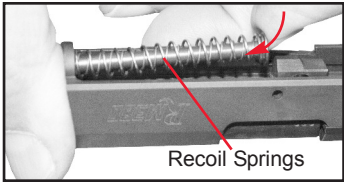

Figure 35
9. Insert the front of the Recoil Spring/Guide Rod Assembly into the Slide and through the Guide Rod hole. See Figure 35.